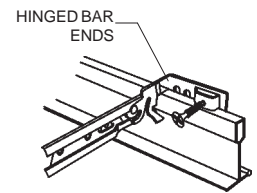

FIG.4
1. Rotate hinged bar ends to position below and fully extend bars. (Fig.4)